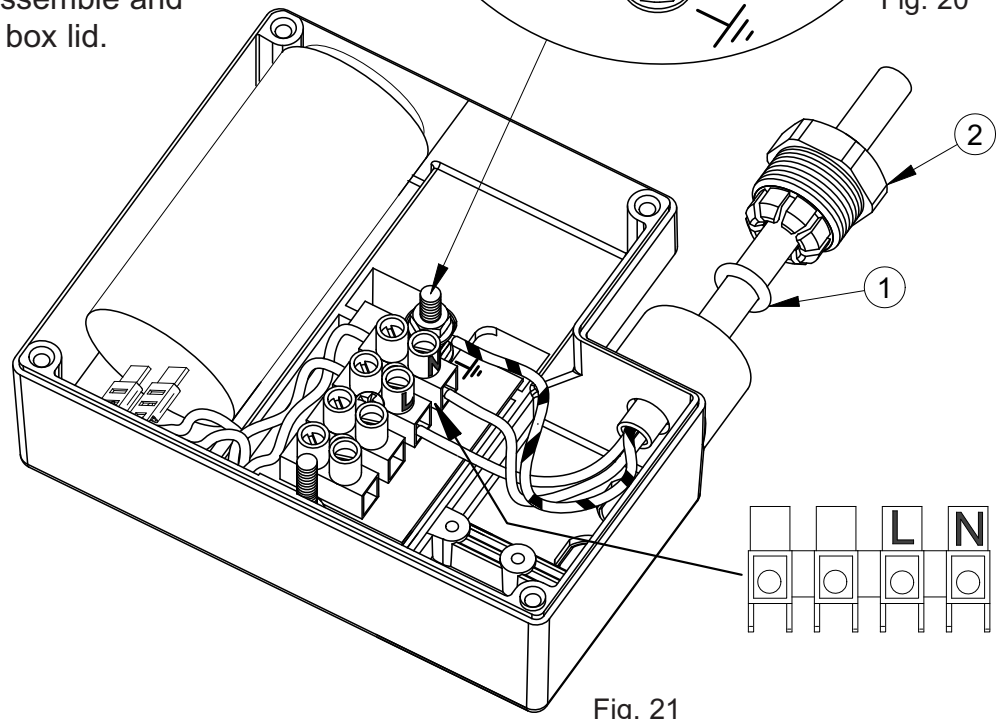

Fig. 21
The cable gland assembly Fig. 21 (items 1 & 2) provides the necessary protection against ingress of solid objects and moisture as well as providing cable retention.
3. Disassemble cable gland as shown in Fig. 21 and insert cable into position ensuring 'O'-ring (item 1) is placed over the cable before the clamping insert (item 2) is tightened.
7. Confirm cable routing is as shown in Fig. 21 and assemble and secure terminal box lid.